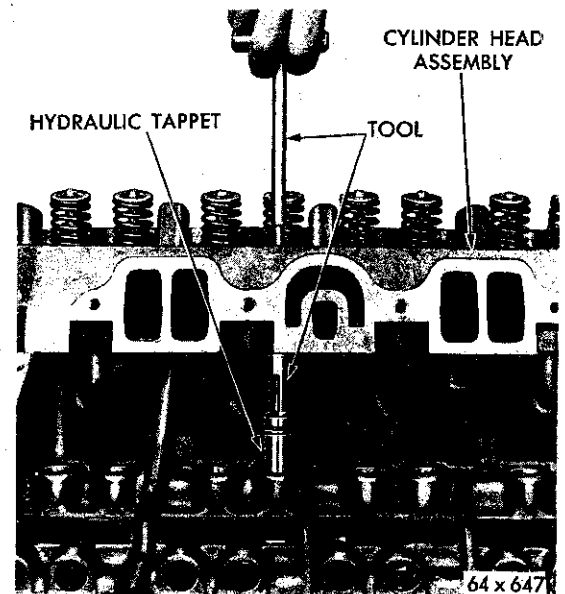

Fig. 16—Removing Tappet Using Tool C-3661
(1) The tappet can be removed without removing the intake manifold or the cylinder heads by following this recommended procedure: Remove the cylinder head covers.
(2) Remove the rocker arms and shaft assembly.
(3) Remove the push rods and place them in their respective holes in Tool C-3068.
(4) Slide the puller Tool C-3661 through the push rod opening in the cylinder head and seat the tool firmly in the head of the tappet.
(5) Pull the tappet out of the bore with a twisting motion, as shown in Figure 16.